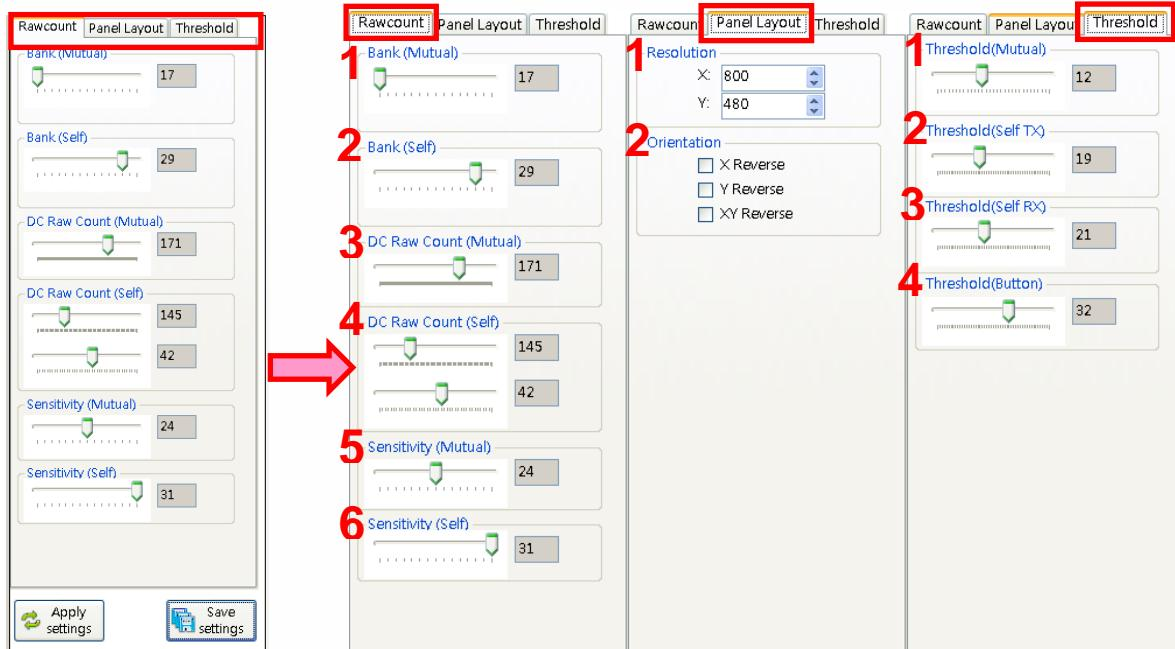

Figure 3-3 : Parameter settings
- Step 3.** After pressing the Save Settings button, it will go to the Code merge page automatically as Figure 3-3. About the operation of this page, please consult the chapter of Configuration File Saving (Chapter 5).